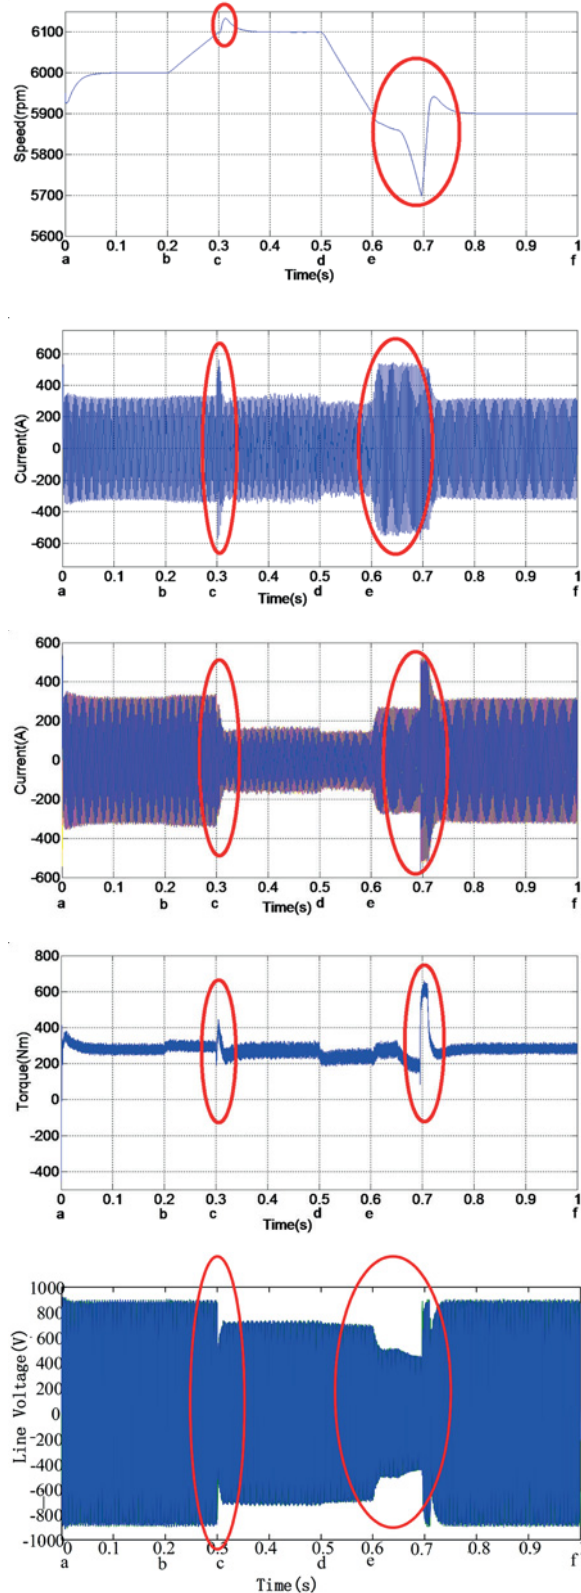

Figure 5: Speed and current waveforms of the switching process
- (3) def (0.5-0.6-1s). The controller reduces the motor's speed in the de part (0.5-0.6s). When its speed reaches 5900rpm, it switches from parallel into series mode, as shown in Figure 2b. It continues to run in series in the ef part (0.6-1.0s). The simulation results of this process are shown in Figure 5.